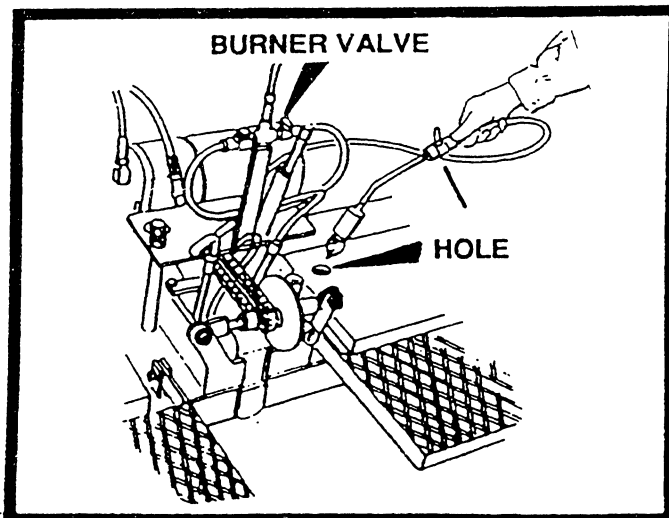

FIGURE 10
4. Direct ignitor flame into hole in screed cover and turn burner valve to "on" position. When the burner is lit, follow same procedure for burner on opposite side as shown in figure 10.